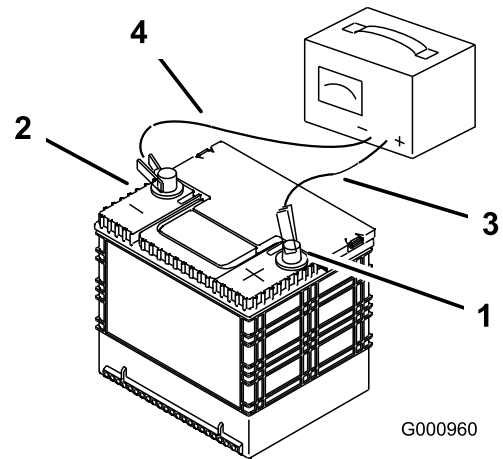

Figure 45
2. When the battery is fully charged, unplug the charger from the electrical outlet, then disconnect the charger leads from the battery posts (Figure 45).